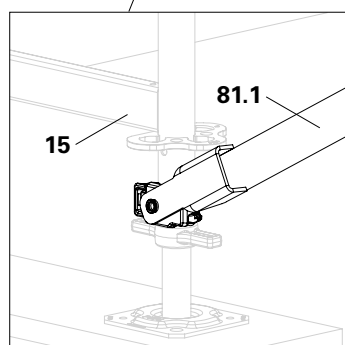

Fig. C4.07b
1. Vertically reinforce the multi brace (**81**) with an outer tube (**81.1**). Fit the outer tube onto the base standard (**12**) (Fig. C4.07b) and onto the inner tube (**81.2**), close to the outer tube. The assembly position has an impact on the support angle.